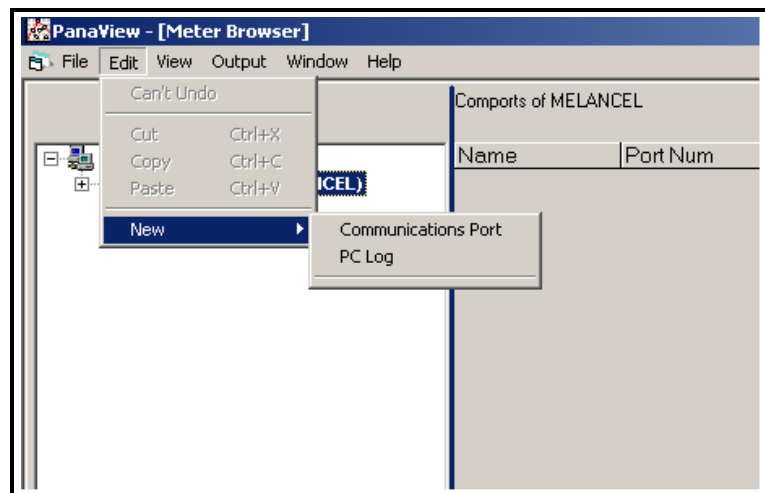

Figure 1: The Edit Menu
3. Click on the "New" menu option to select it, and a submenu opens with two choices on it (see Figure 1 below).